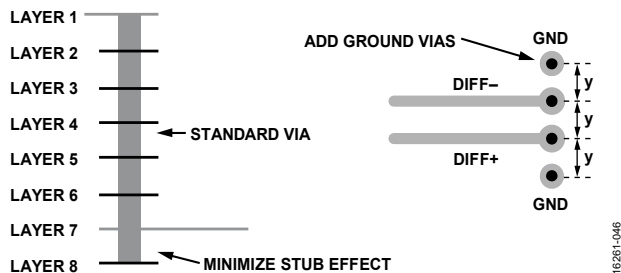

Figure 84. Minimizing Stub Effect and Adding Ground Vias for Differential Stripline Traces
- If using standard vias, use the maximum via length to minimize the stub size. For example, on an 8-layer board, use Layer 7 for the stripline pair (see Figure 84).
- For each via pair, place a pair of ground vias adjacent to them to minimize the impedance discontinuity (see Figure 84).